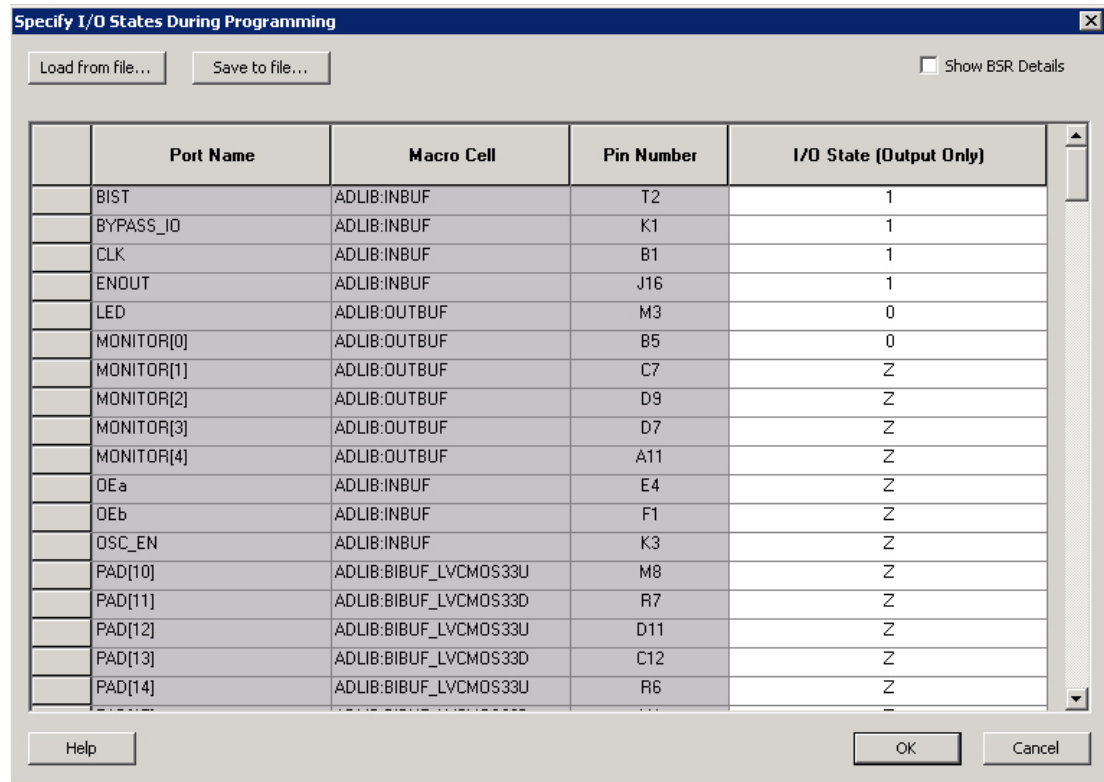

Figure 1-6 • I/O States During Programming Window
4. Sort the pins as desired by clicking any of the column headers to sort the entries by that header. Select the I/Os you wish to modify (Figure 1-6 on page 1-8).